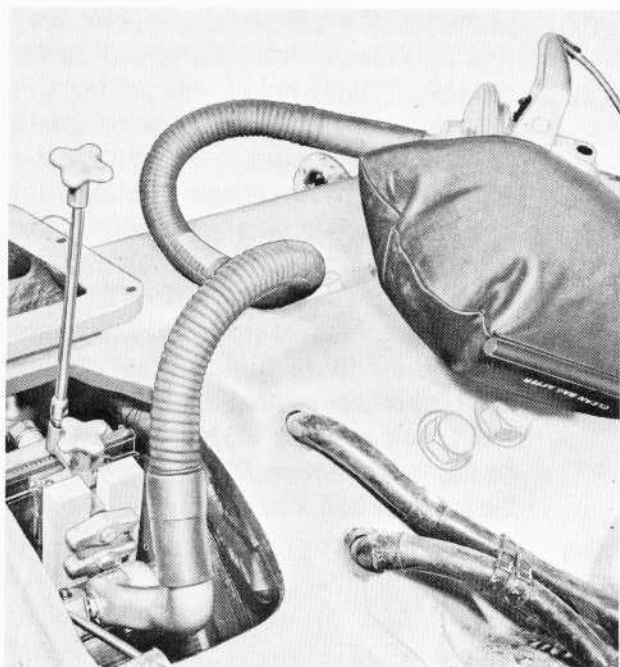

Fig. 6 - Commutator Grinder Application
7. Install the grinder on the supporting adapter as shown in Fig. 6. Set the grinder so that it clears the commutator and that the cross feed will run parallel to the commutator bars. Use alignment bar for this purpose.